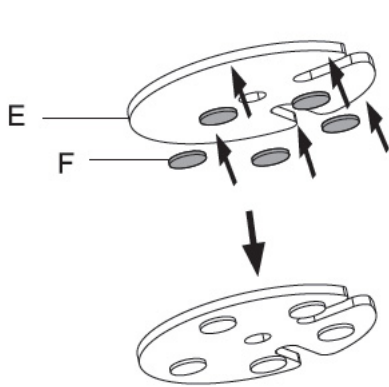

Figure 4
2. Place the Rubber Pads (F) onto the Upper Grommett Plate (E), see **Figure 4**.
3. Place the Rubber Pads (F) onto the Upper Grommett Plate (E), see **Figure 4**.